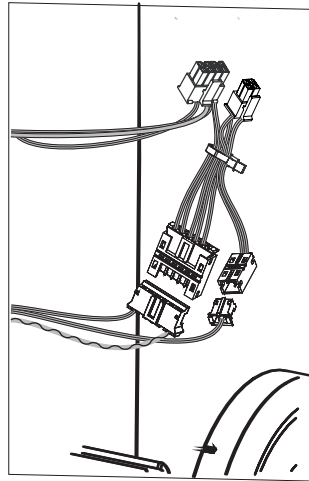

Fig. 9a
- a. Connect 6-pin connector from lock body to 6-pin connector on reader harness (Fig. 9a, b).
- b. Connect 2-pin connector from lock body to 2-pin connector on reader harness (Fig. 9a, b).